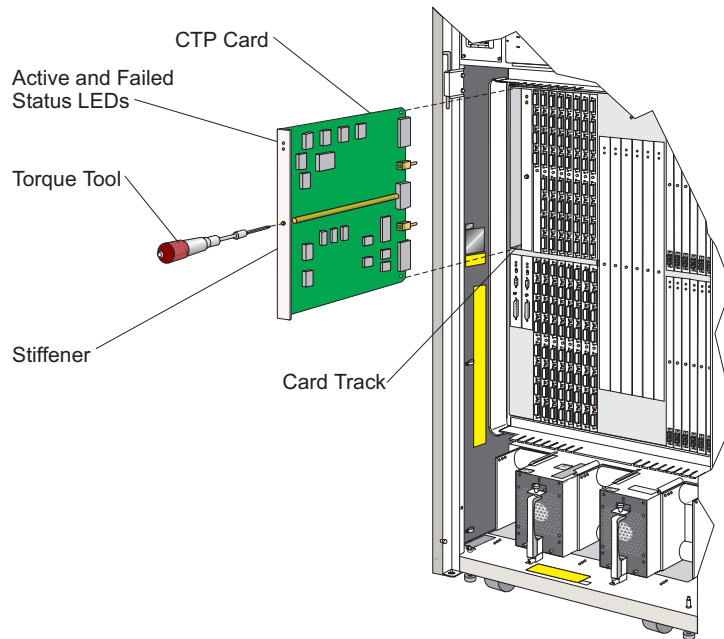

Figure 3-10. Control Processor (CTP) Card, Redundant
Use the following procedure to remove a CTP card from a **redundant** CTP card unit. Refer to Figure 3-10 on page 3-27.
Use the following procedure to replace a CTP card within a **redundant** CTP card unit. Refer to Figure 3-10.
1. Holding the CTP card by its stiffener, carefully insert it straight into its card track (refer to Figure 3-10). Note that the label identifying the CTP card should be at the top and the component side of the card should face to the right.